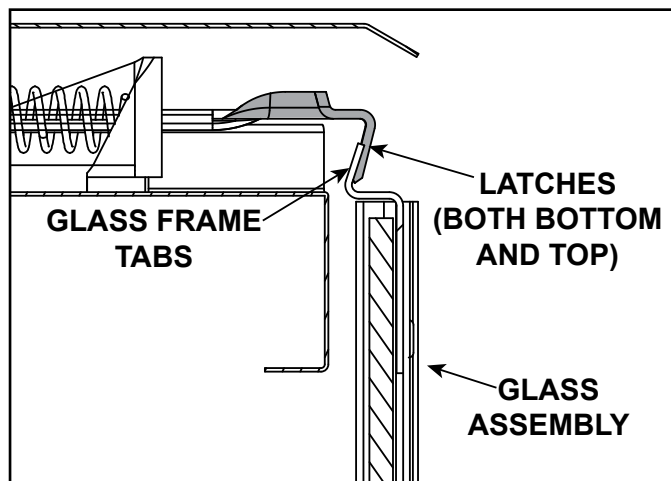

Figure 11.9 Fixed Glass Assembly
- Pull the four glass assembly latches away from the tabs on the glass frame. Remove glass assembly from the appliance. See Figure 11.9.